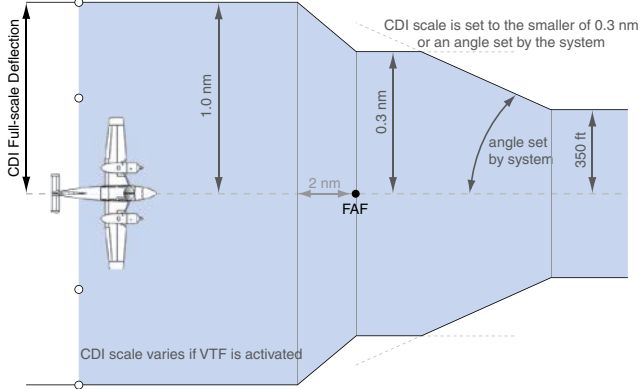

Figure 2-25 Typical LNAV and LNAV+V Approach CDI Scaling
- During **approach**, the CDI scale ramps down even further (Figures 2-25 and 2-26). This transition normally occurs within 2.0 nm of the final approach fix (FAF). The CDI switches to approach scaling automatically once the approach procedure is activated or if Vectors-To-Final (VTF) are selected.